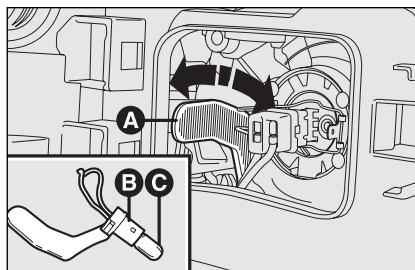
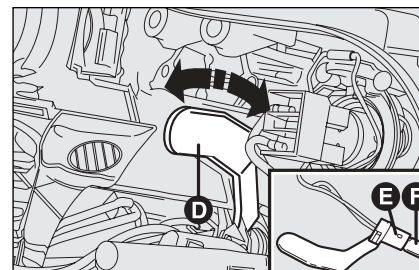

fig. 28
fig. 29
- ☐ using the extension **A**-**fig. 28** or **D**-**fig. 29**, turn the bulb holder **B**-**fig. 28** or **E**-**fig. 29** clockwise and counter-clockwise and then withdraw it;
- ☐ remove the bulb **C**-**fig. 28** or **F**-**fig. 29** and replace it;